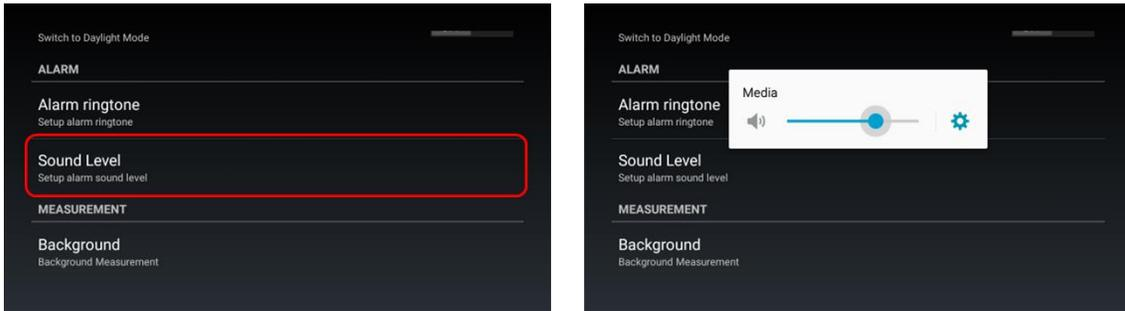

Figure 5.8. Select sound level
The sound volume of the alarm can also be adjusted, as shown in Figure 5.8 below.
1. Select ‘Sound level’ (figure 5.8)